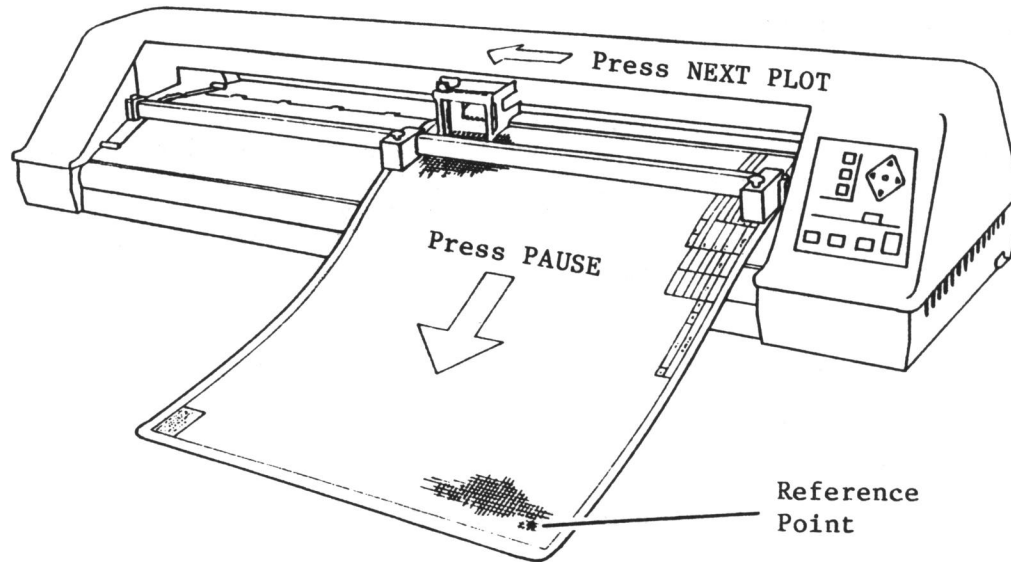

Figure 7-2
2. Choose a grid intersection on the media to use as a reference point. Make sure the point is in the lower right corner of the media (as viewed from the front of the plotter). See Figure 7-2. Using the directional arrows, position the bore sight directly over the intersection.
5. Press PAUSE and the media will move forward 5 inches (or 10 centimeters if you have selected metric units). Continue pressing PAUSE until the bore sight is close to the back edge of the media. See Figure 7-2.
6. Press NEXT PLOT and the pen carriage will move to the left 5 inches (or 10 centimeters if you have selected metric units). Continue pressing NEXT PLOT until the bore sight is close to the left edge of the media. See Figure 7-2.